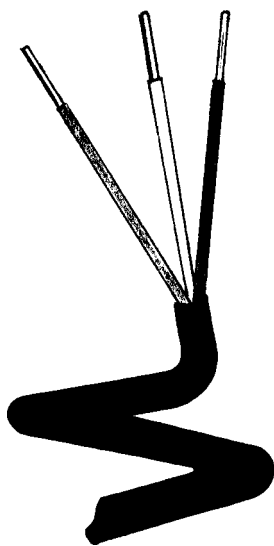

FIGURE 3
STEP 1. Strip the insulation from each coil cord wire approximately 1/2". Omit the green wire. (See figure 3).
STEP 2. At the probe junction box, strip 1/2" from the ends of the three (3) 18 conductor wires that run from the computer terminal strip to the probe junction box.